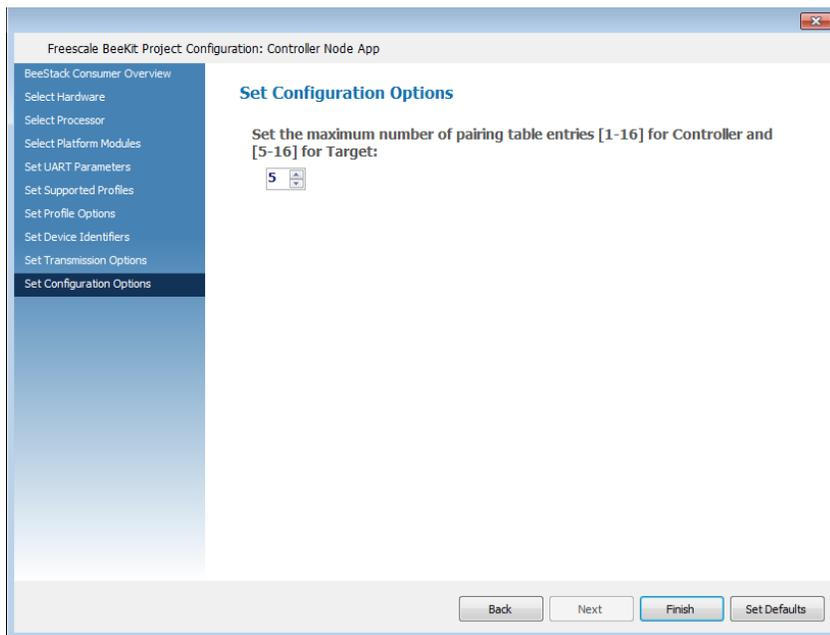

Figure 2-12. Set Configuration Options Page
12. Click Next. The Set Configuration Options page appears as shown in Figure 2-12.